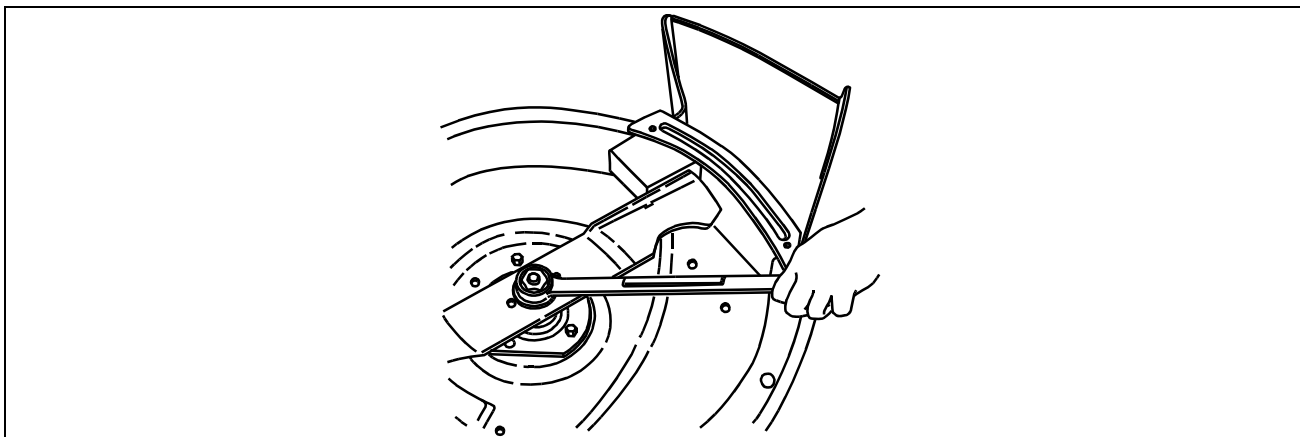

Figure 28
1. Secure the cutting blade by putting a piece of wood between the blade and the housing. (See Figure 28)